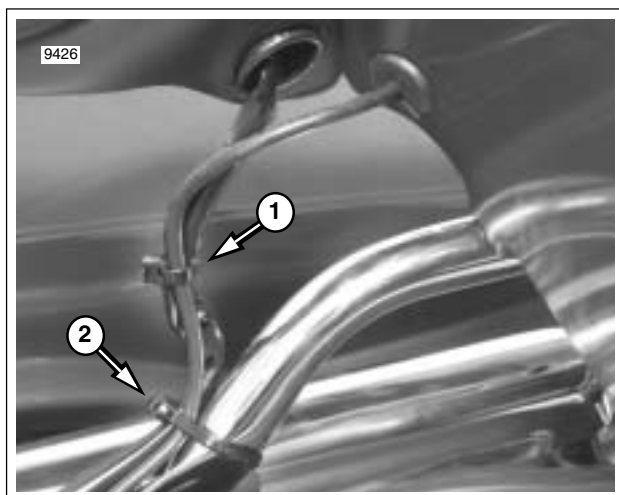

Figure 8-179. Secure CB Antenna Cable
4. Install two **new** cable straps to secure CB antenna cable to rear right speaker/passenger controls conduit and luggage rack rail. See Figure 8-179.